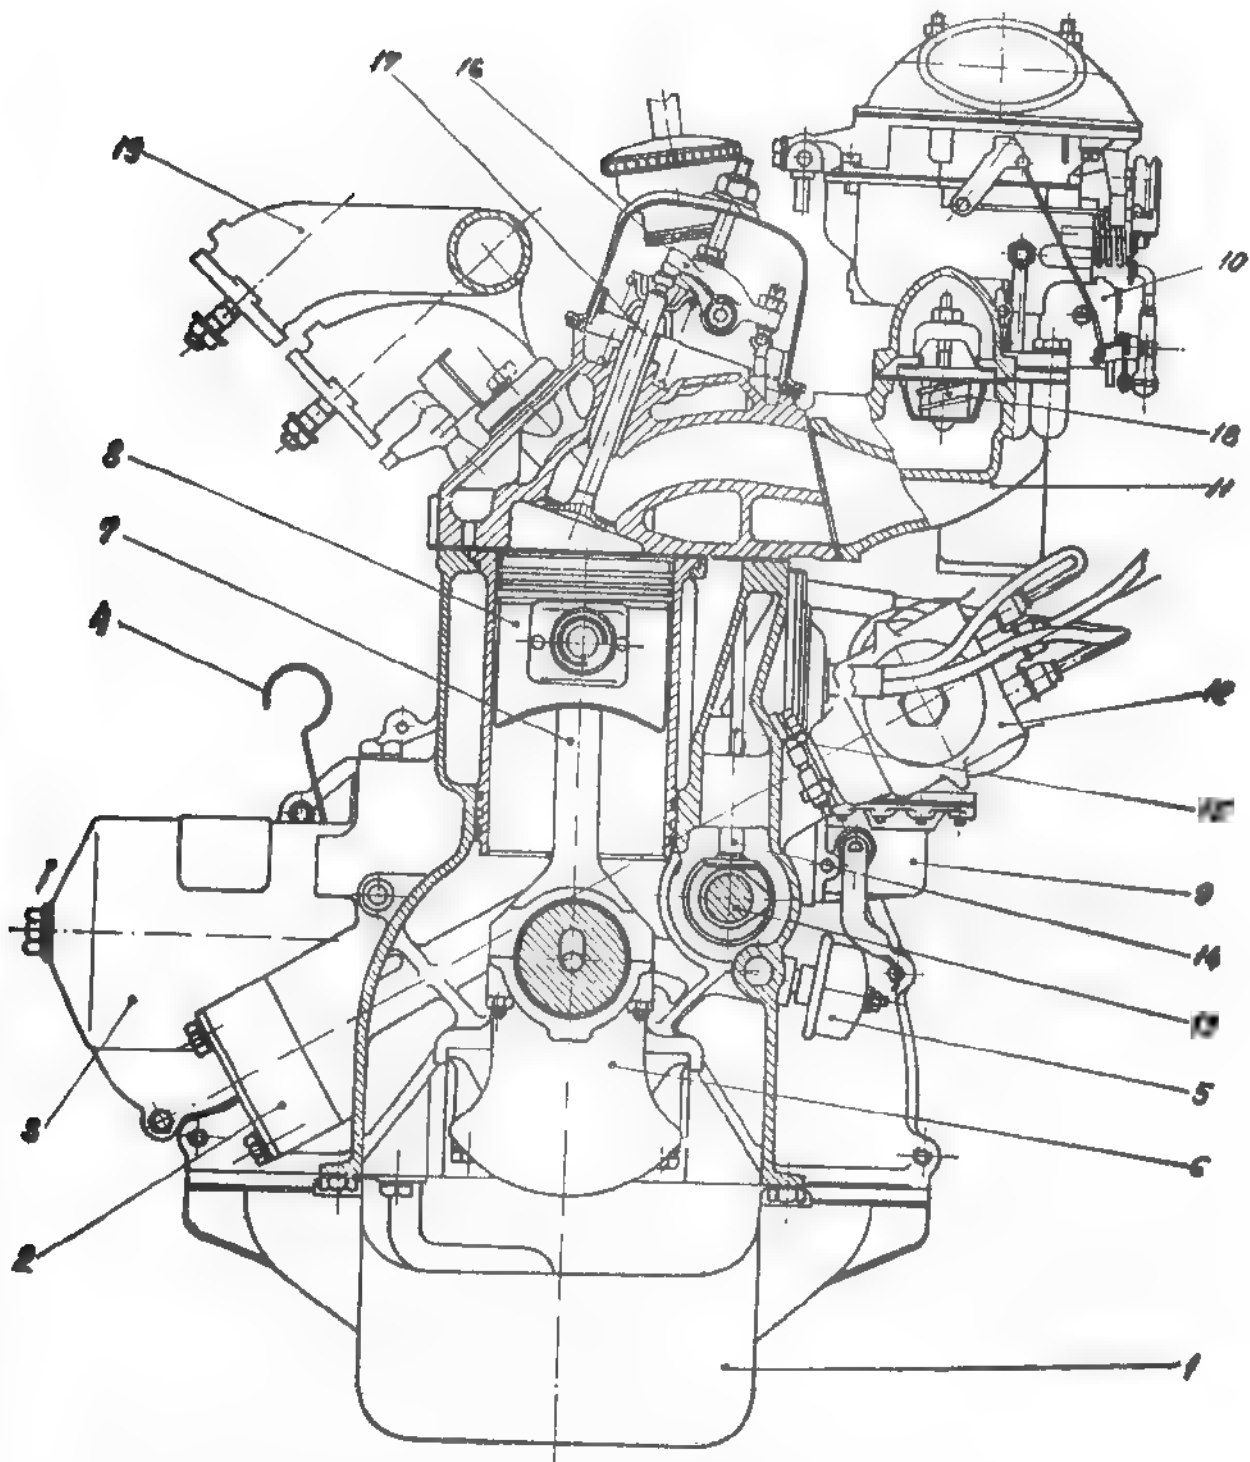

Fig. 4.2. CROSS SECTION OF ARO L-25 ENGINE.
- The fuel supply system comprises the fuel tank, fuel filter, fuel pump, air cleaner, carburettor and inlet manifold (see fig. 4.2.).